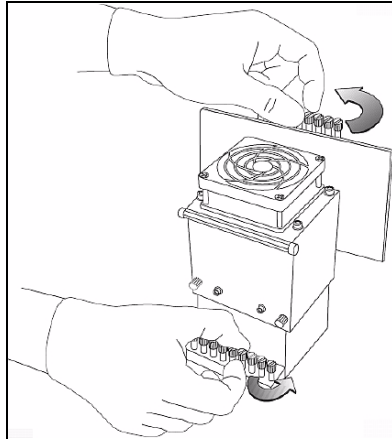

Figure 6-58: Releasing the locking screws
17. Tighten the upper and lower screws that secure the print head in the print block (see figure 6-58 on page 42).